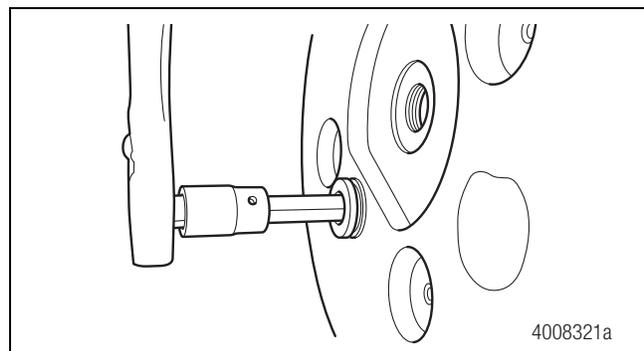

Figure 8.25
2. Install the wheel end drain plugs and tighten them to the torque specified in Section 11. Figure 8.25.